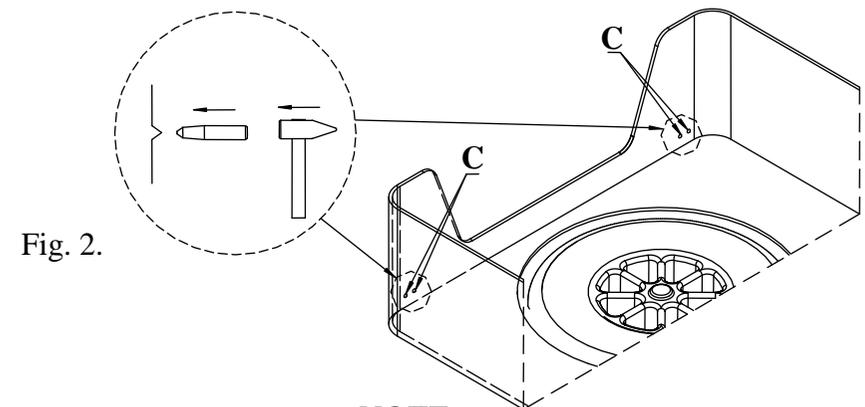

Fig. 2.
2. Place fish-plates pos. 4 and 5 on trunk's floor. Holes A and B are placed on the left and right side trunk's floor, over left and right chassis member. They are marked as dents. Find them using fish-plates 4 and 5. Then take out fish-plates and drill trunk's floor using bit  $\varnothing 17\text{mm}$  in points A and B.
4. Remove fish-plates and knock out dents (see figure 2). Resultant holes enlarge using bit  $\varnothing 12\text{mm}$ . Drill straight through rear wall of the trunk.
5. Place fish-plates pos. 4 and 5 again together with distance sleeves (pos. 6, 7 and 8) and bolts M10x110mm (pos. 14) and M10x100mm (pos. 15) as shown on the figure. **NOTE!! Sleeves have different length!** Place plates pos. 9 from outside of rear trunk's wall and fix it using bolts M10x35mm (pos. 16)
6. Place main bar of the towbar (pos. 1) together with square washer (pos. 10) and fix it through holes A and B using five nuts M10 and washers  $\varnothing 25 \times \varnothing 11 \times 3\text{mm}$  (pos. 11).
7. Fix body of the automat (pos. 17) and the socket plate (pos. 3) using bolts M12x25mm (pos. 12) from accessories. Place tow-ball (pos. 2) according to supplied instruction.